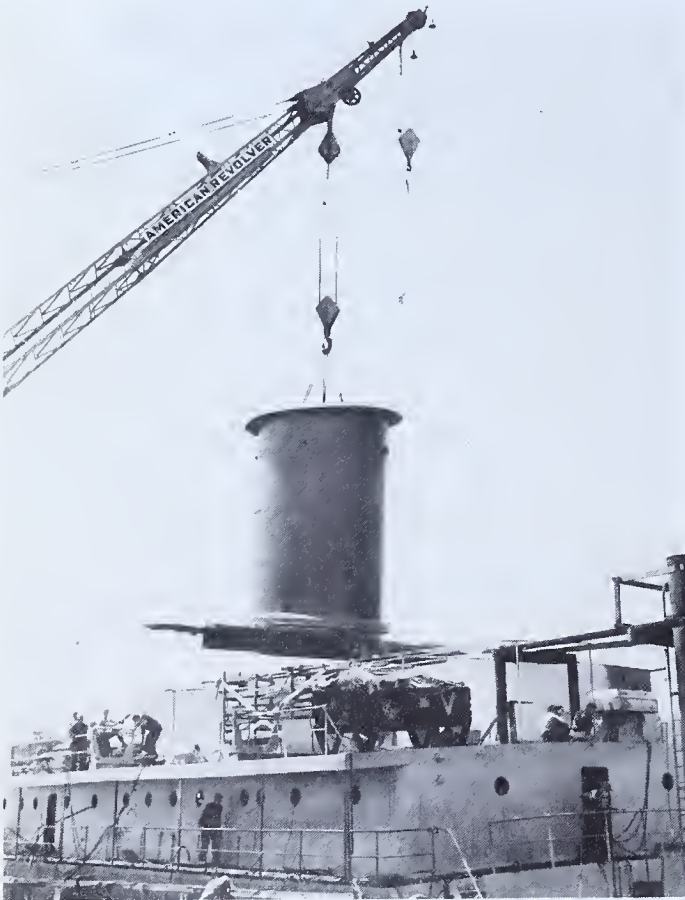

FIG. 597 — *Landing a Finished Smoke-Stack Aboard Ship*
75. Prepare to have the stack go aboard ship. (Fig. 597 shows the landing of a finished smokestack aboard ship.)